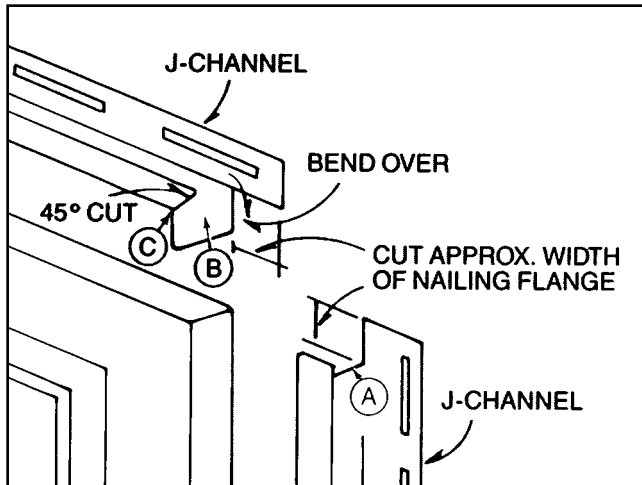
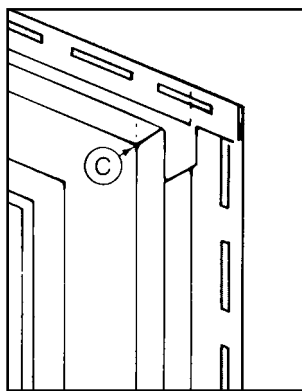

Fig 5.7
Fig 5.8
**4. DOOR AND WINDOW TRIM** J-Channel is used around doors and windows to receive siding. Around windows: measure top, bottom and sides of the window and add 1-1/2" to each measurement (3/4" for each overlapping piece). Cut a notch in the top and bottom of each side J-Channel leaving channel face and nailing slots uncut (Fig. 5.7 circle A). Cut top and bottom pieces in a similar manner but instead of removing the center portion of the channel, bend it down to make a flange (Fig. 5.7, circle B). Insert the flange into the side channels and miter cut the channel face of the top and bottom pieces for a neater appearance (Fig. 5.7 circle C and Fig. 5.8). J-Channel trim around doors should be handled in the same way. Remember, it is recommended to caulk around doors and windows before installing J-Channel trim pieces. Dual Undersill Trim can be used under windows for a more finished appearance where a siding panel's top lock has to be cut off to fit under a window.